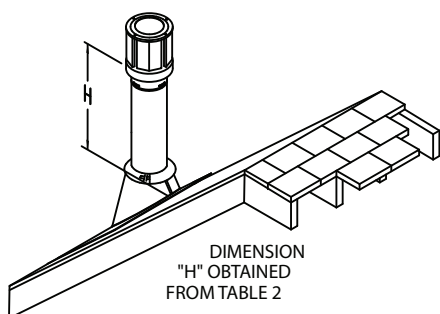

Figure 17
Step 8. Continue to add Pipe Sections until the height of the system (before adding the Cap) meets the minimum building code requirements as described in (**Table 3 and Fig. 17**). Note that for steep roof pitches, the vent height must be increased. In high wind conditions, nearby trees, adjoining rooflines, steep pitched roofs, and other similar factors can result in poor draft, or down drafting. In these cases, increasing the vent height or switching to the High Wind Termination Cap may help to solve the problem.